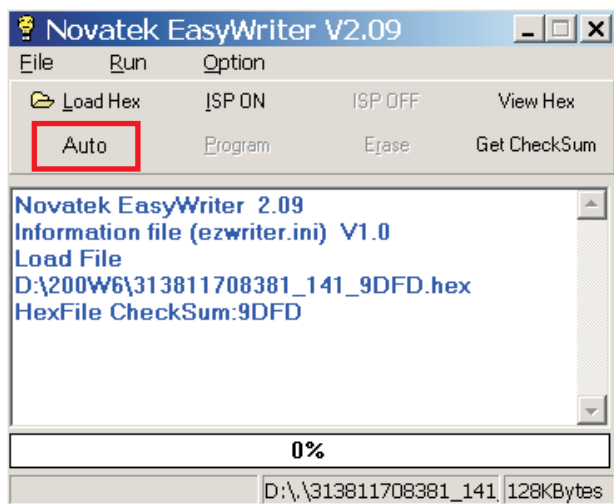

Fig. 9
4. Press the AUTO to running program, the firmware be updated as shown in Fig. 9~10.